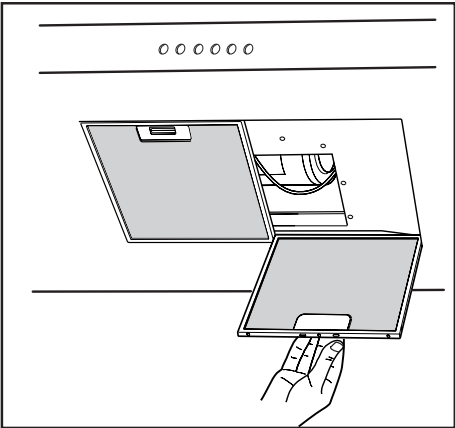

Fig.16
Before proceeding with the assembly operations, remove the anti-grease filter(s) (Fig.16) so that the unit is easier to handle.
-If the cooker hood is supplied with a lower chimney piece that must be fixed to the hood body with screws, remove the anti-grease filters from the hood by acting on the relevant handles (Fig.16). Then screw the lower chimney piece pipe to the inside of the hood, using screws **P** (Fig.14). Re-locate the filters in their seat.